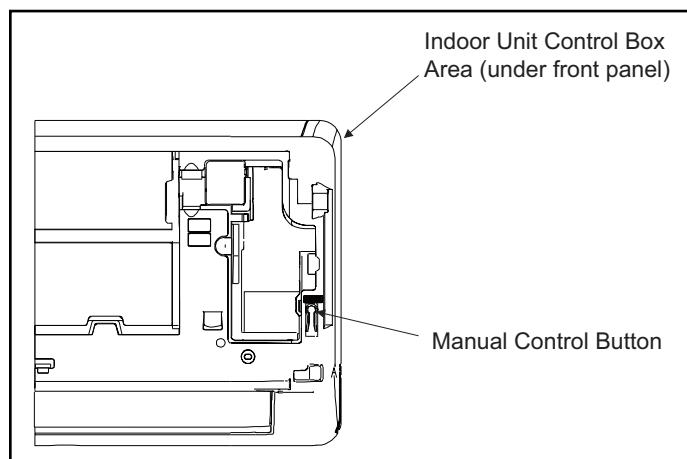

Figure 45. Manual Control Button
2. The MANUAL CONTROL button is located on the right-hand side of the unit. Press it two times to select the COOL function. See Figure 45.